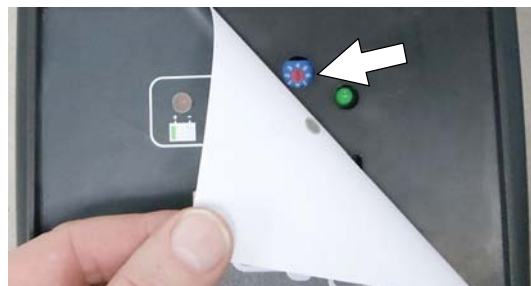

FIG. 79
2. Carefully peel back the charger display label to access the dial settings (Figure 79).